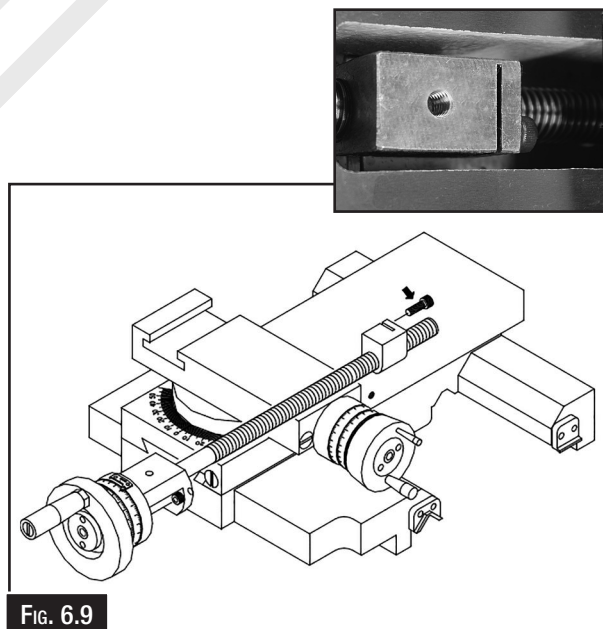

Fig. 6.9
3. With a long hex key in the cap head screw, make only small adjustment. Operating the cross slide several times by hand to be sure of smooth operation throughout the travel. (Fig. 6.9)